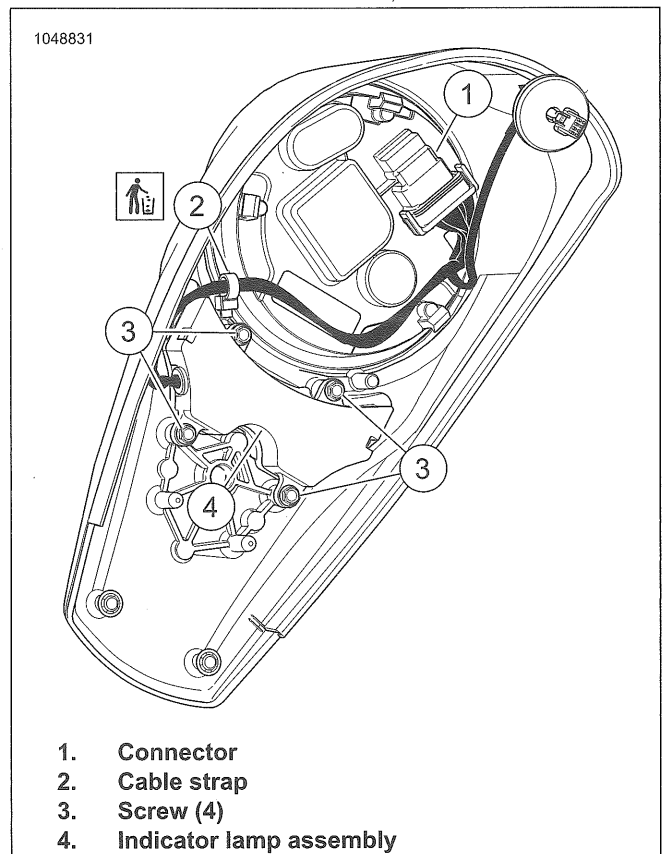

Figure 7-38. Indicator Lamps
1. See Figure 7-38. Disconnect connector (1).
2. Discard cable strap (2).
3. Remove screws (3).
4. Remove indicator lamp assembly (4).